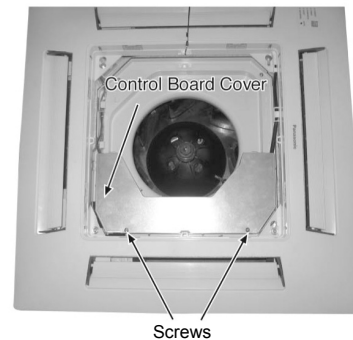

Fig. 2
- 2 Remove the Control Board Cover by removing the screws (Fig. 2).